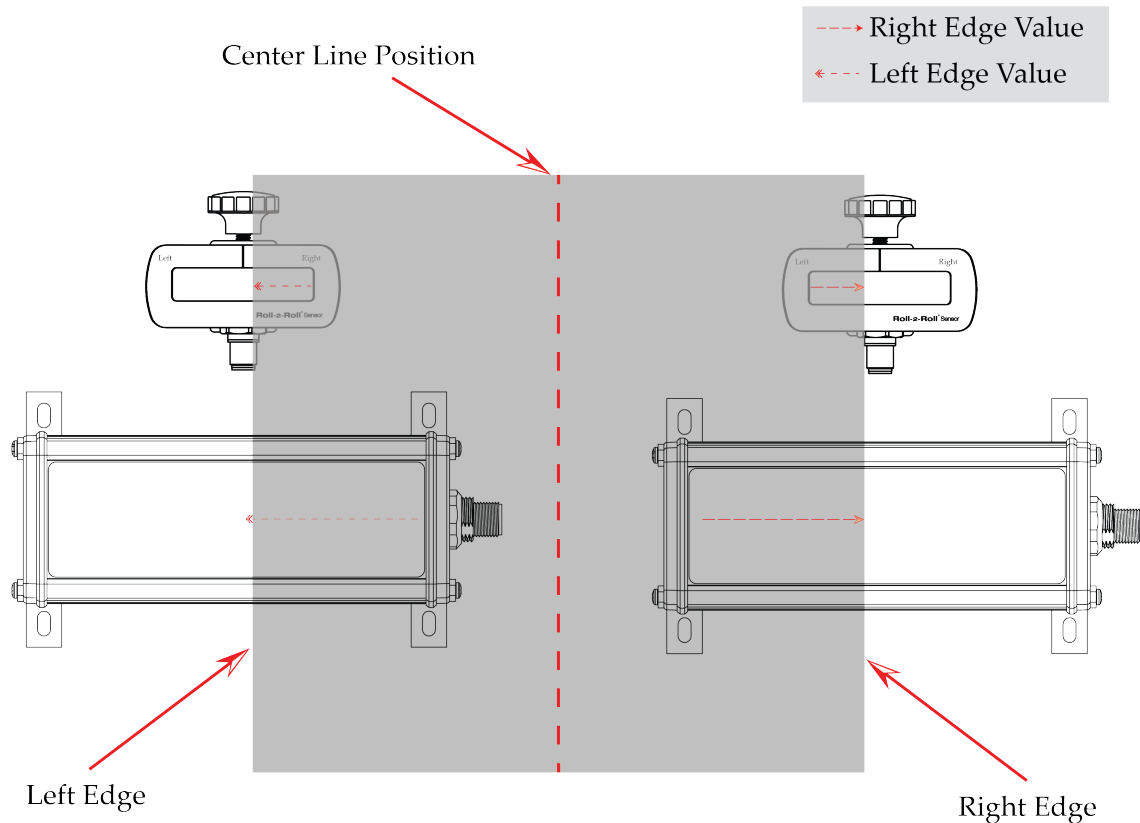
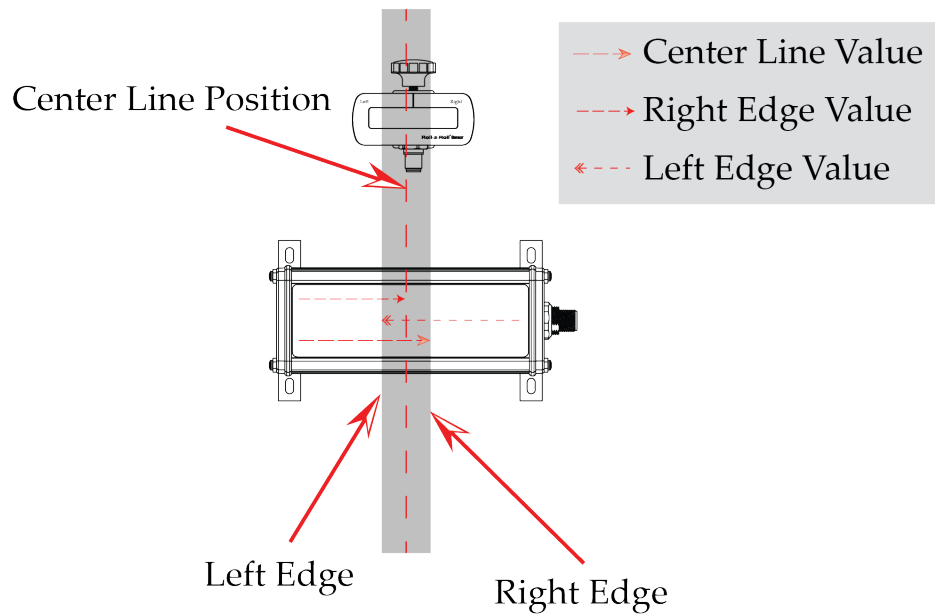

Figure 5.91: Centerline position of the web when using two sensors; one configured to left and the the other right.
Figure 5.92: Centerline position of the web when using a single sensor that can detect both the left and the right edge.
- *When two sensors are used (as shown in Figure 5.91), the left edge position value on the analog output will only correspond to the sensor configured to measure the left edge position. The scaling for the analog output will only depend on the respective sensor's resolution and number of pixels.*
- *Even if the width of the web is less than the sensor range (as illustrated in Figure 5.92), the position of the left edge will consistently correspond to the location of the left edge. The width of the web does not impact the value of the left edge that is given as the output.*
- *When two sensors are connected and enabled, with one sensor oriented to the left and the other to the right, the analog output can be set to the left, right, or centerline position, as illustrated in Figure 5.91. If either sensor is set to the center orientation, the output becomes more intricate. For detailed guidance on this sophisticated setup, please contact Roll-2-Roll Technologies.*
Even if the width of the web is less than the sensor range (as illustrated in Figure 5.92), the position of the right edge will consistently correspond to the location of the right edge. The width of the web does not impact the value of the left edge that is given as the output.
to the right, the analog output can be set to the left, right, or centerline position, as illustrated in Figure 5.91. If either sensor is set to the center orientation, the output becomes more intricate. For detailed guidance on this sophisticated setup, please contact Roll-2-Roll Technologies.
The Roll-2-Roll[®] Controller is capable of determining the centerline position of a web using two different methods. One approach involves the use of two sensors, with one sensor detecting the position of the left edge and the other sensor detecting the position of the right edge, as illustrated in Figure 5.91. The calculation for the centerline measurement is detailed in the equation provided in Section 5.1.3. Alternatively, if a single wide sensor covers the entire width of the web, it can be configured to measure the centerline position, as shown in Figure 5.92. In this setup, the centerline position measurement is obtained by averaging the positions of the left and right edges, as explained in Section 5.1.3. This measurement of the centerline position can be presented as an analog output when the analog mode is configured to center.
- When employing two sensors, the offset value or the distance between the two sensors is not incorporated into the output when opting for the absolute width output. The analog output will solely mirror the combined portions of the web detected by both sensors. This corresponds to the total of the value of the left edge and the value of the right edge, illustrated in Figure 5.91.